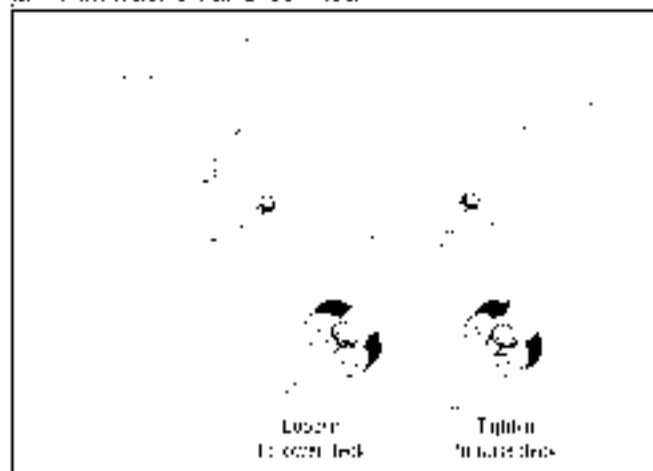

Figure 15
- Locate the two lock nuts on the front side of the stabilizer bracket. See Figure 15. Tighten the lock nuts to raise the front of the deck, loosen the lock nuts to lower the front of the deck.